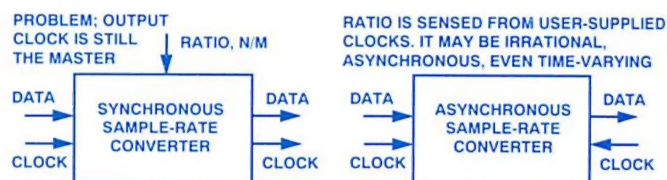

Figure 2. Synchronous and asynchronous sample-rate conversion.
**SRCs to the Rescue:** A piece of equipment known as a “sample-rate converter” (SRC) can solve these problems. There are two types, synchronous and asynchronous (Figure 2). In *synchronous* converters (left), the input sample-rate is converted to a new rate at the output. The ratio between input and output sample-rates, specified by the user, is usually restricted to simple integer ratios like 3/2. This type of converter is of little practical use for solving real-world sample-rate conversion problems. For example, consider a 32-kHz input to a digital mixer running at 48 kHz. A synchronous sample-rate converter could convert by a ratio of 3/2 to give an output rate of 48 kHz. So far, so good. But what if the 32 kHz is actually 32.001 kHz, i.e., 32 kHz plus 1 Hz? This will always happen in practice; the resonant frequencies of even the best crystal oscillators are off by 10 ppm or so, and they usually drift over time and temperature. Then the output will not be 48 kHz, but 48.0015 kHz. The mixing console, running at 48 kHz, has no choice but to drop a sample every  $1/1.5 = 0.66$  of a second, resulting in audible errors.
This problem is readily solved (Figure 2 right) by the *asynchronous* sample-rate converter (ASRC). An analog scheme for such a device is shown in Figure 3. The digital input is converted to analog at the input sampling rate and smoothed, then converted back to digital at the rate required by the output clock. The clock for the output signal of the ASRC is an *input* to the sample-rate converter and can therefore be derived from the internal system clock of the digital mixer. With this device, slaved to both clocks, there is no longer a need for the user to tell the converter what the sample-rate ratio is. An ASRC automatically senses the required ratio from the clocks for the input and output signals.